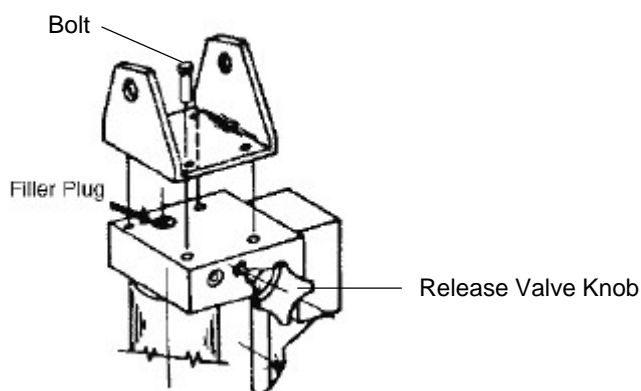

Figure 6
2. Remove the 4 bolts attaching the saddle assembly to the hydraulic unit. (see Figure 6)